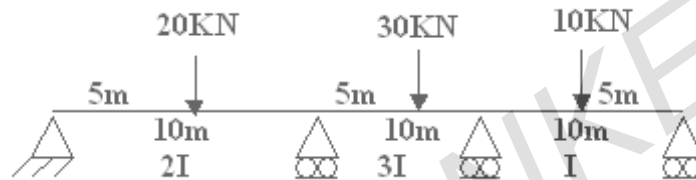

Figure 2
1. Analyse the continuous beam shown in figure 2. The downward settlements of supports B and C in t-m units are $150/EI$ and $75/EI$ respectively. Use stiffness method. [8+8]